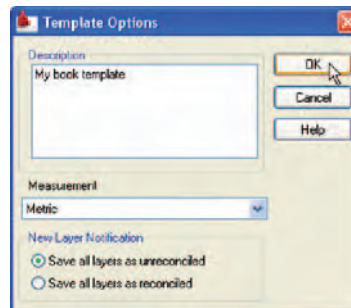

Fig. 4.22 The **Template Description** dialog
4. A **Template Description** dialog appears. Make *entries* as suggested in Fig. 4.22, making sure that **Metric** is chosen from the pop-up list.